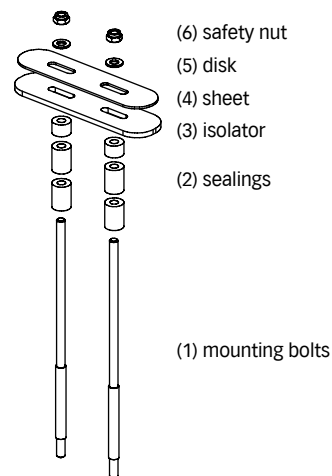

Fig. 21: assembly mounting bolts
Finally screw together the mounting bolts like illustrated in fig. 21 cutting them in the boat interior as necessary. Apply seals (2) according to the hull thickness (note: hull thickness + 25 %). On hulls out of GRP and boreholes of 9 mm the seals (2) can be omitted by using suitable sealant (e.g. Sikaflex).